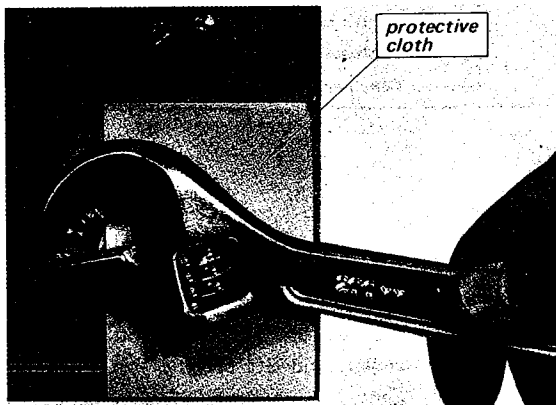
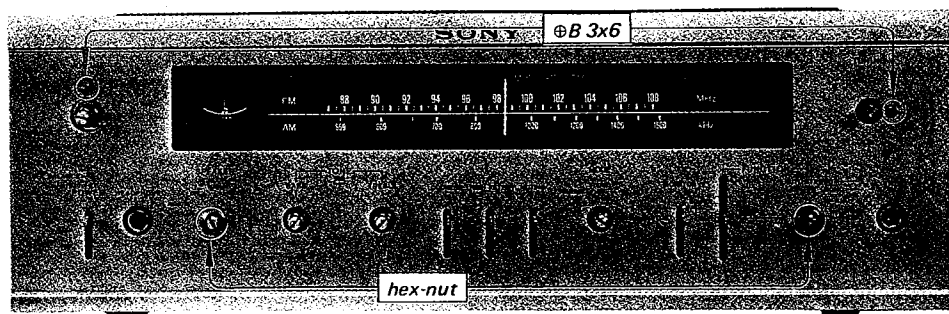

Fig. 2-4. Hex nut removal
Fig. 2-3. Front panel removal
3. Remove the two self-tapping screws ($\text{#B } 3 \times 6$) and two hex-nuts securing the front panel to the front sub-chassis as shown in Fig. 2-3. Place a piece of cardboard or cloth between the wrench and front panel to avoid marring the panel as shown in Fig. 2-4. Now the front panel is free for servicing.